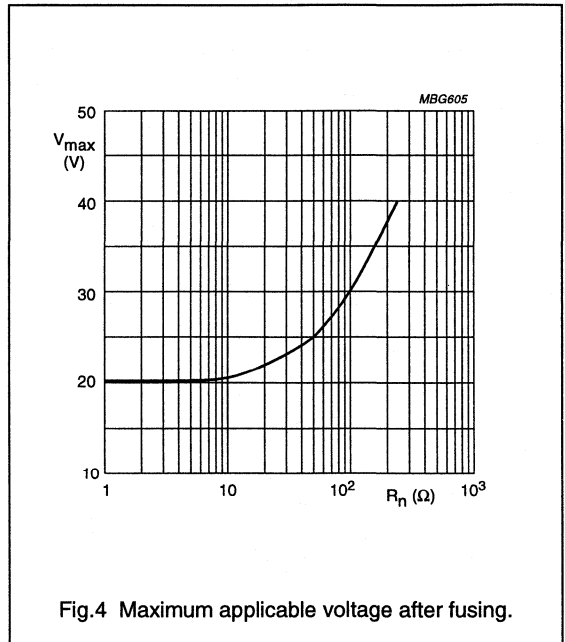

Fig.4 Maximum applicable voltage after fusing.
2. The maximum voltage that may be applied after fusing is shown in Fig.4.